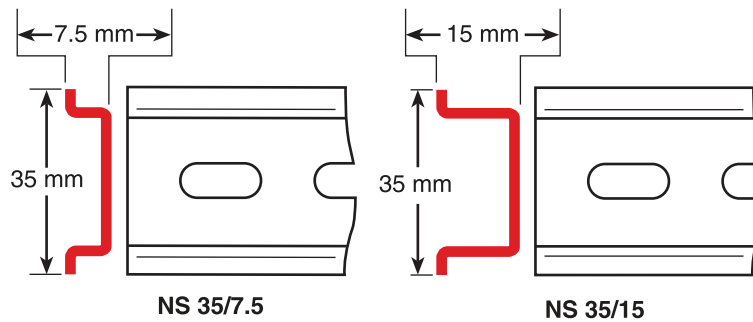

Figure 28. DIN rail types
- The SmartNode device can be attached to top hat NS 35/7.5 (35 H × 7.5 D mm) and NS 35/15 (35 H × 15 D mm) section types of DIN rail (see figure 28).